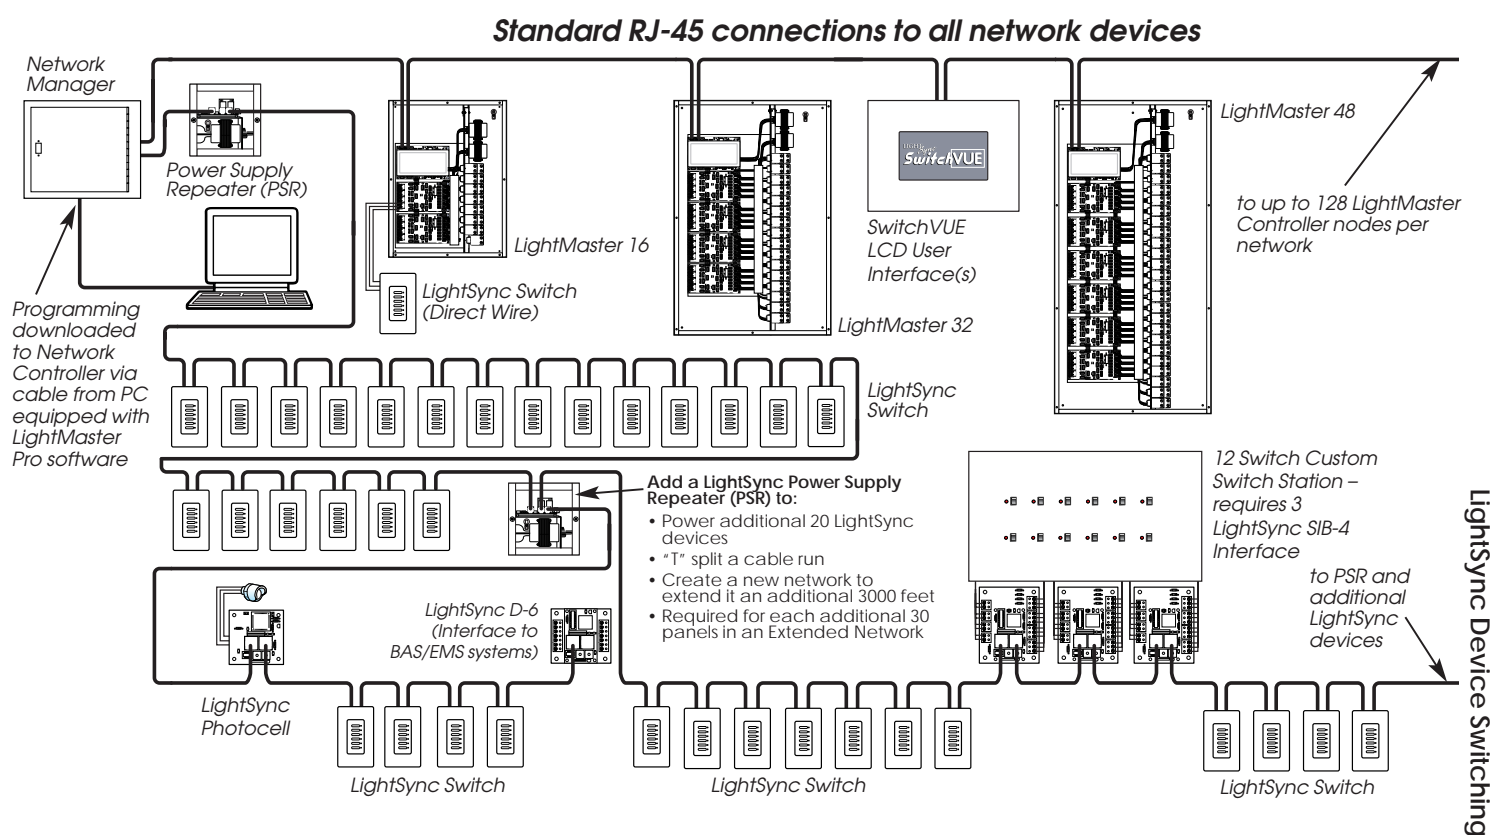
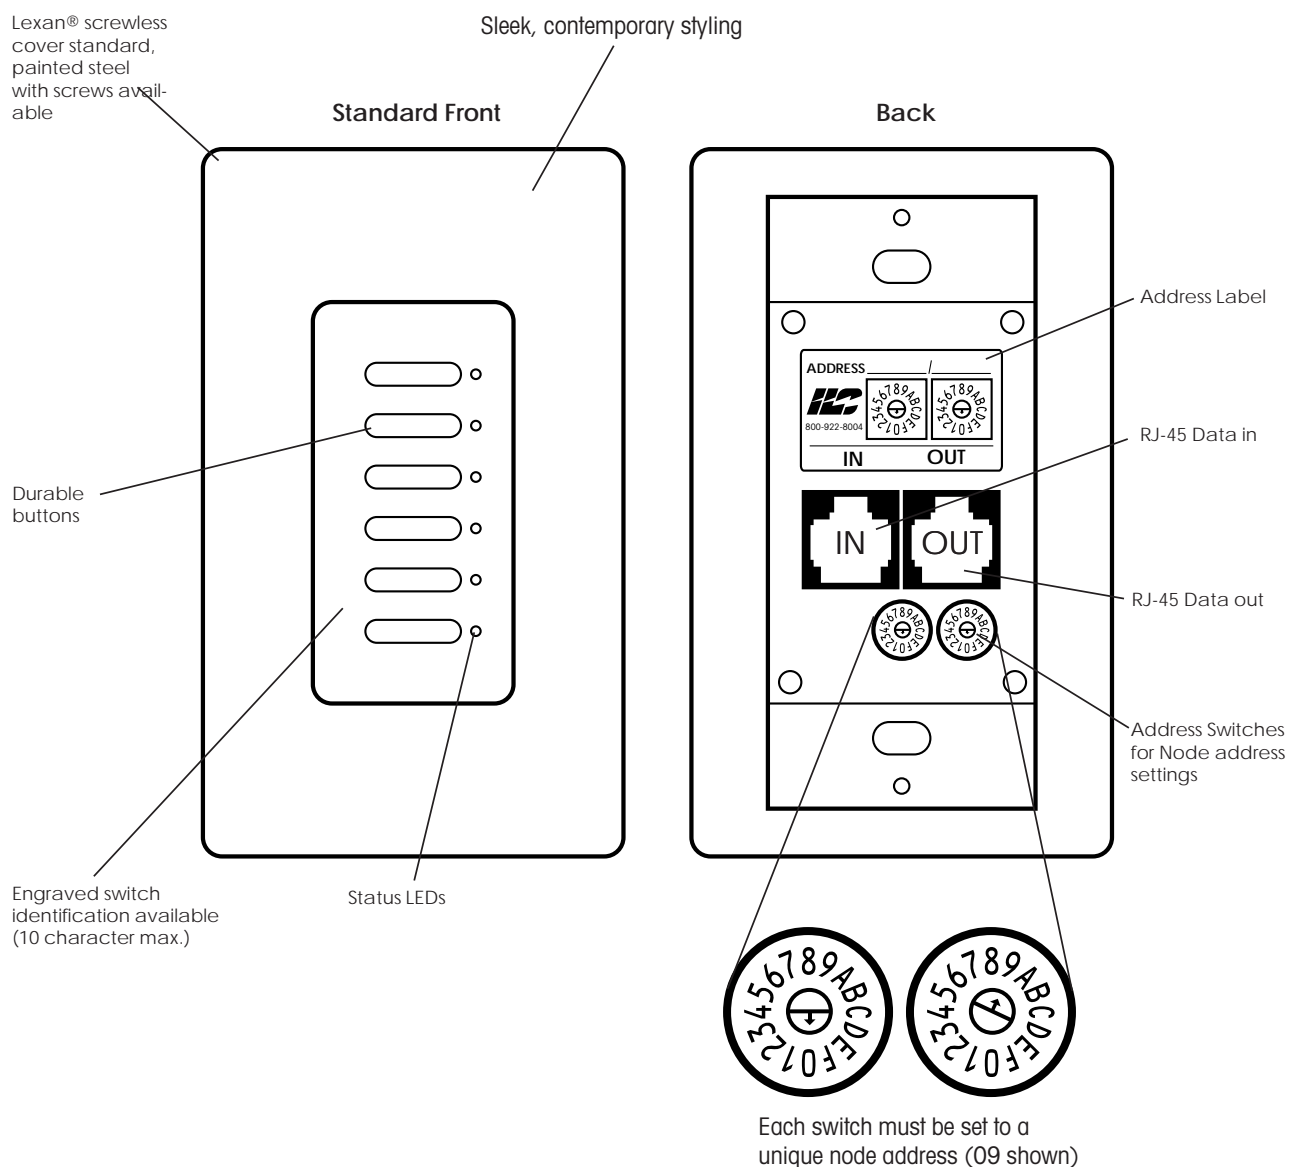

Figure 4.2 – Sample Extended Network LightSync Switching Layout
Figure 4.3a – LightSync Switch Detail
The communications media is an 8 wire 24 gauge CAT-5 cable terminated at the Network Manager's LightSync Scanner card and routed to a LightSync Power Supply (PS) or Power Supply Repeater (PSR), then out to the LightSync device CAT-5 cable run. Run the CAT-5 cable between LightSync devices installed throughout the facility. (See Figure 4.2). There are limitations to the distance data can travel over CAT-5 cable without loss, and distance limitations due to voltage drop associated with cable length and number of devices on the LightSync data line. (See Page 4-1 for detail). The devices are equipped with two RJ45 connectors. Each switch must have a unique node address (01-FE). (See Figure 4-3a). NOTE: LightSync switch node addresses are pre set at the factory. Be sure to document switch locations at installation.
LightSync devices are available in either momentary push button, maintained, or key switch configurations. Switches are available with up to 6 push buttons mounted on a single gang plate. Key switch nodes are limited to one per gang. In addition to the switches, a LightSync photocell node (Figure 4.3b), a 4-input switch station (SIB-4) (Figure 4.3c), and a 6-Input/Output module (D-6) (Figure 4.3d) are also available. Depending on the installation, one or more Power Supply (PS), Power Supply Repeater (PSR) or LightSync Hub (each will power up to 20 additional LightSync devices) may be required. (See ILC Power and Data Repeating Devices Overview on preceding page). PSRs are also required if the installation layout requires a "T" connections (one incoming and two outgoing lines). See Figure 4.2.